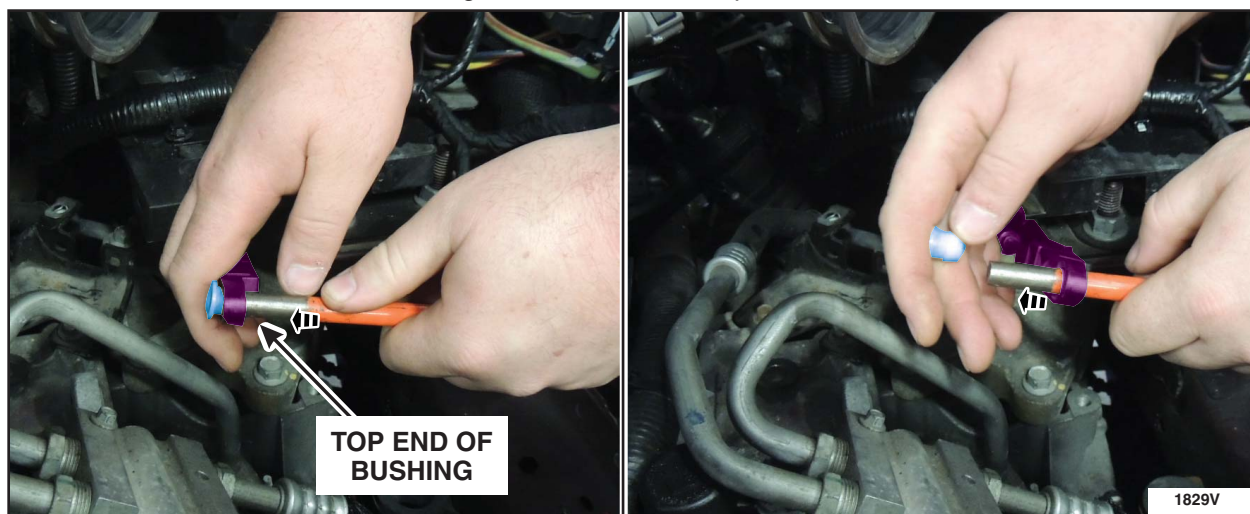

FIGURE 4
7. Turn the selector lever cable end over and using a punch push the bushing the rest of the way out of the selector lever cable end. See Figure 4. Proceed to Step 9.